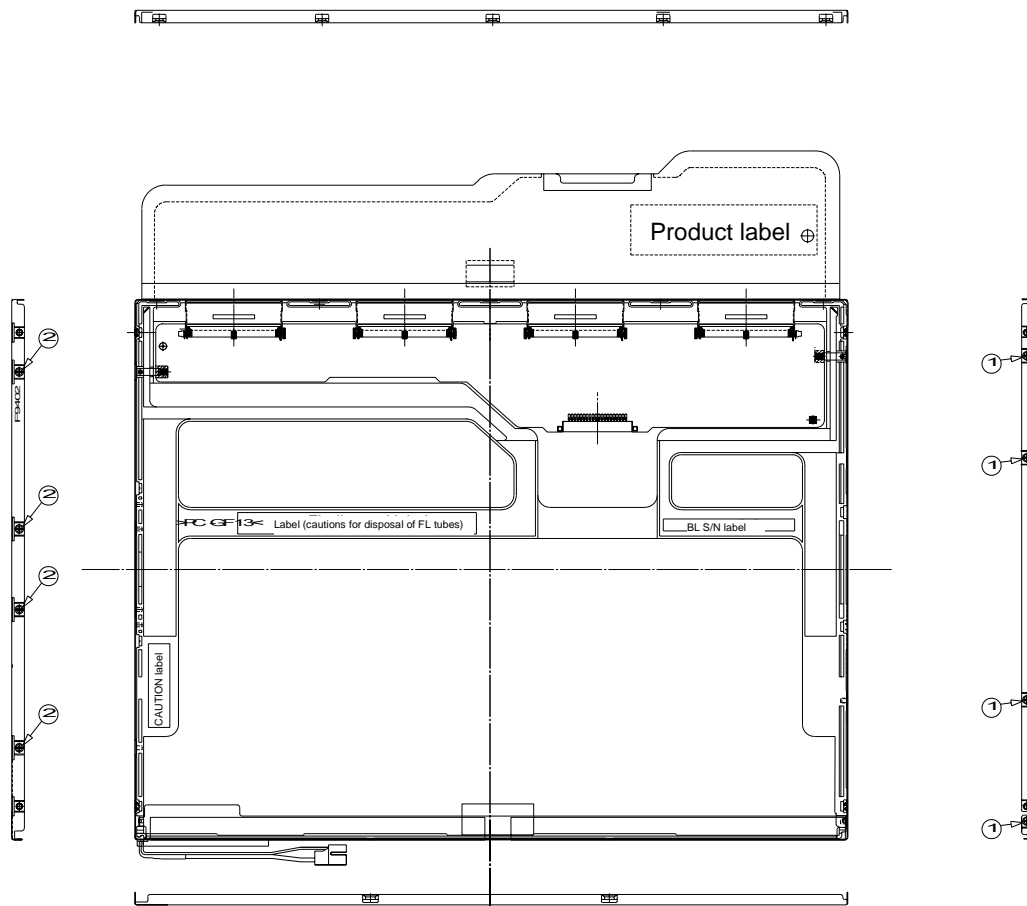

Figure 4-46 Replacing 14 Inch TMD fluorescent lamp (2)
1. Spread out the insulation sheet without detaching it from the side of the bezel, as shown in Figure 4-46.
2. In the order (1) and (2) shown in Figure 4-46, remove the screws from the left- and right-hand sides of the module.